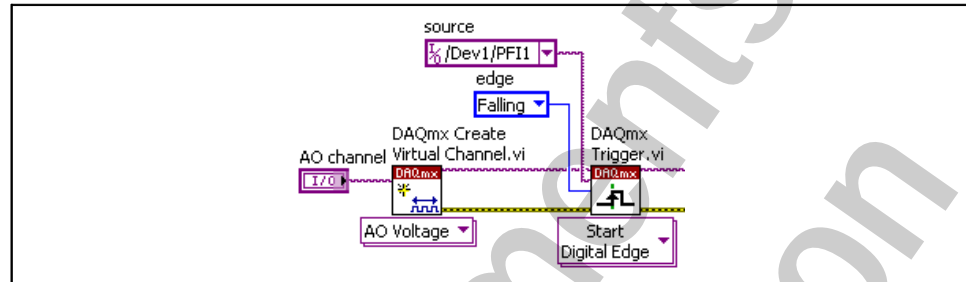

Figure 8-3. Added DAQmx Trigger VI to Analog Output Task
1. Add a hardware trigger to start two tasks simultaneously, as shown in Figure 8-3, by adding the following item: